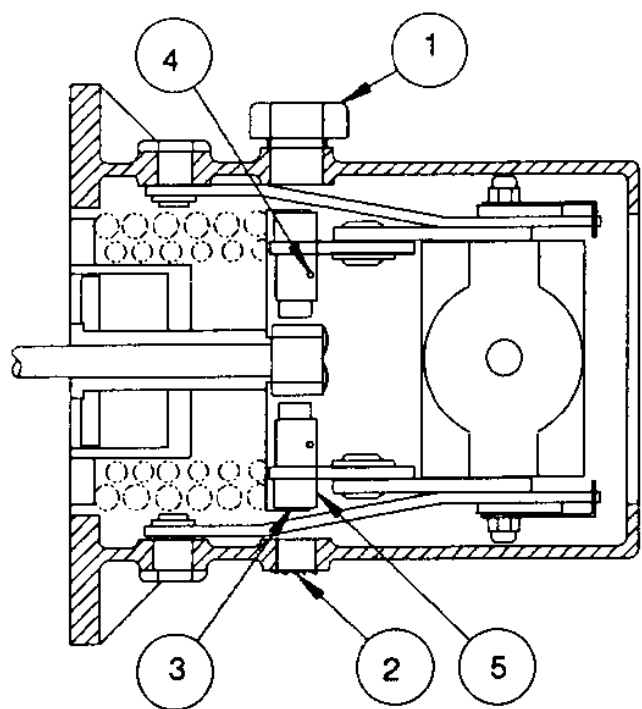

Figure 54 -- Internal Driver Detail
4. With reference to Figure 54: